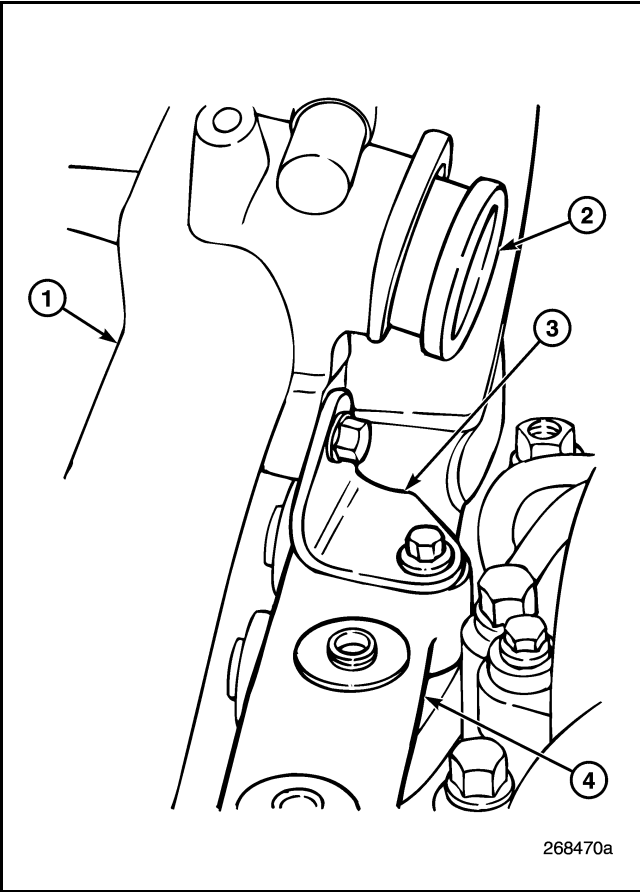

Figure 140 — Support Bracket
- 2. Remove the capscrew from the support bracket at the side of the EGR gas mixer tube. The bracket is attached between the mixer tube and the coolant manifold (Figure 140).